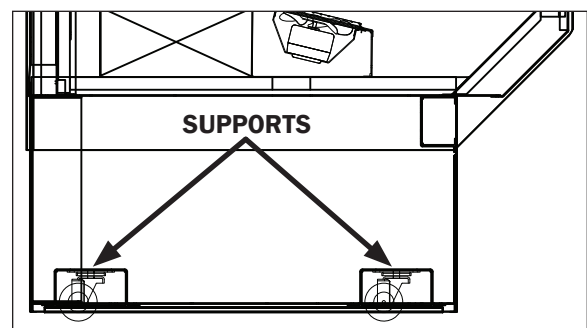

Fig. 2 Vertical (caster) supports (HSCN-SC)
7. Locate horizontal or vertical (caster) support positions along the chalk line (Fig. 2 & 3). Spot properly leveled shim packs at each support location.